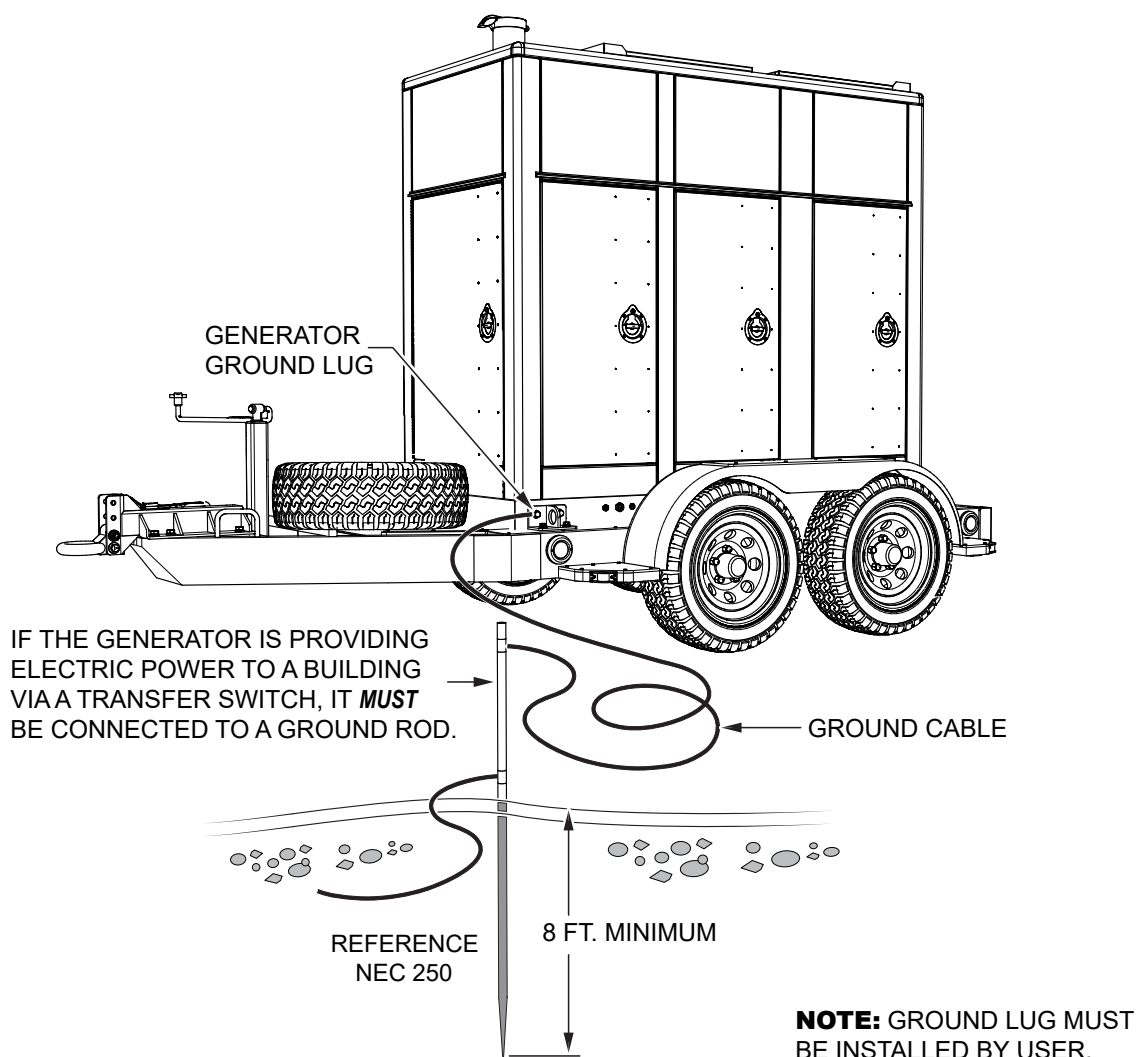

Figure 2. Typical Generator Grounding Application
Connect one end of the ground cable terminal to the generator ground point (Figure 2). Connect the other end of the ground cable to a suitable earth ground (ground rod).
The Occupational Safety and Health Administration (OSHA) and the National Electrical Code (NEC) recommend that if the generator is providing electrical power to a structure (home, office shop, trailer or similar), it **must** be connected to a grounding electrode system, such as a driven ground rod (Figure 2).
If applicable, to guard against electrical shock and possible damage to the equipment, it is important to provide a good **EARTH** ground (Figure 2).
2. When grounding of the generator (Figure 2) is required, connect one end the ground cable to the ground lug on the generator. Connect the other end of the ground cable to the ground rod (earth ground).